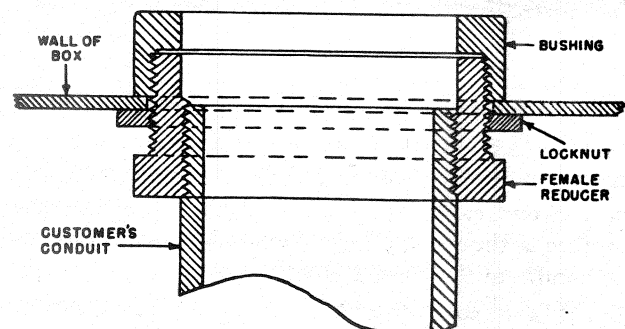

Fig. 28. Section of female conduit reducer
6. Use a female conduit reducer to adapt the knockout opening to the next smaller size of conduit, Fig. 28.